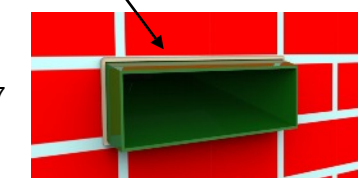
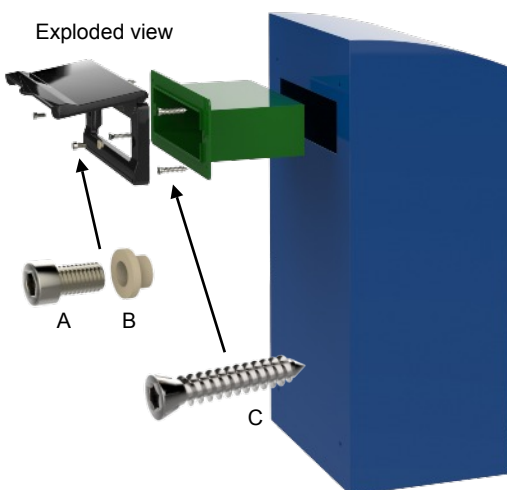

Fig 7
Fig 8
- Offer the container box over the chute and mark the locations of the securing holes. Remove the container, drill the holes with a 5.5mm drill and insert the rawl plugs. Seal any gaps between the chute and the brick wall with silicon. *Fig 7*. Place a bead of silicon around the chute hole and the top and sides of the collection box, do not seal the bottom edge. *Fig 8*. Locate the collection box over the chute and secure using the screws provided. Ensure that the silicon bead between the wall and container makes a good seal. Finally seal around the top and sides where the collection box meets the wall. Do not seal the bottom edge.
- Place a bead of silicon around the chute hole and the top and sides of the collection box, do not seal the bottom edge. *Fig 8*. Locate the collection box over the chute and secure using the screws provided.